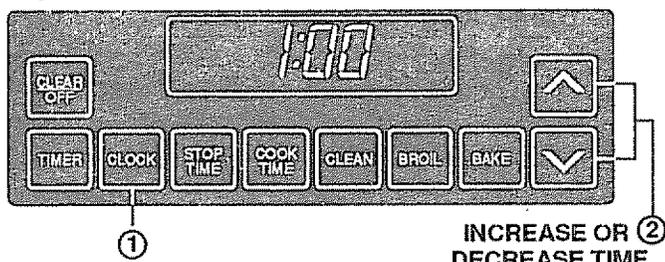

Fig. 1
2. If the bracket side of the range is adjacent to a cabinet, place the bracket against back wall and cabinet as shown in Figure 1.
If there is no adjacent cabinet, determine where the location of the range side (painted outside panel) will be. Place the bracket with its outside edge at this location and against back wall. See Figure 1.
2. Press the **UP** or **DOWN** arrow pad to select the correct time of day. Hold your finger on the arrow pad to change display numbers quickly. Touch and release the arrow pad to change the time slowly. See Fig. 1.